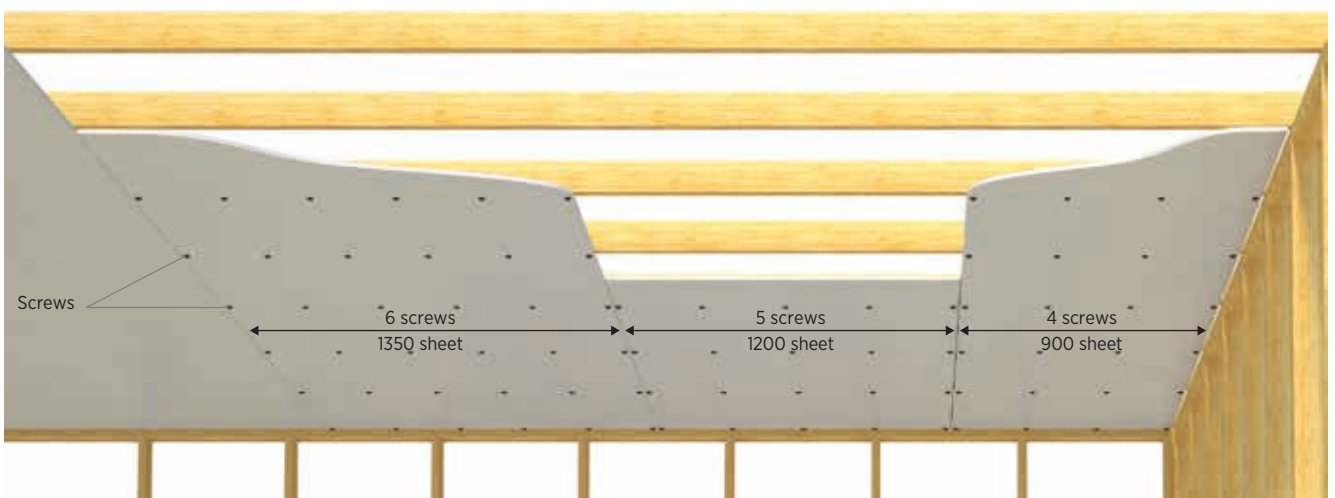

Figure 21: **Screw fixing (only) layout for ceilings**
- Refer Table 21 and Figure 21 for the number of screwing points across the sheet width.